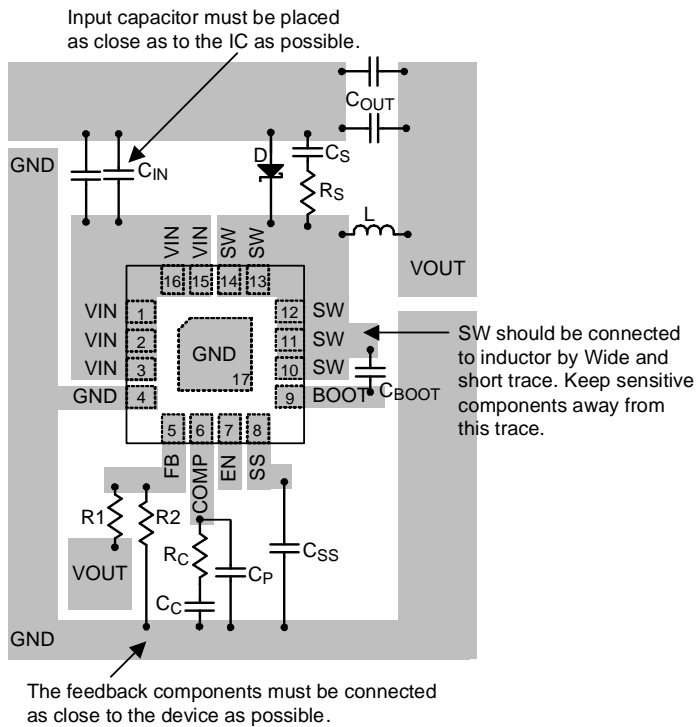
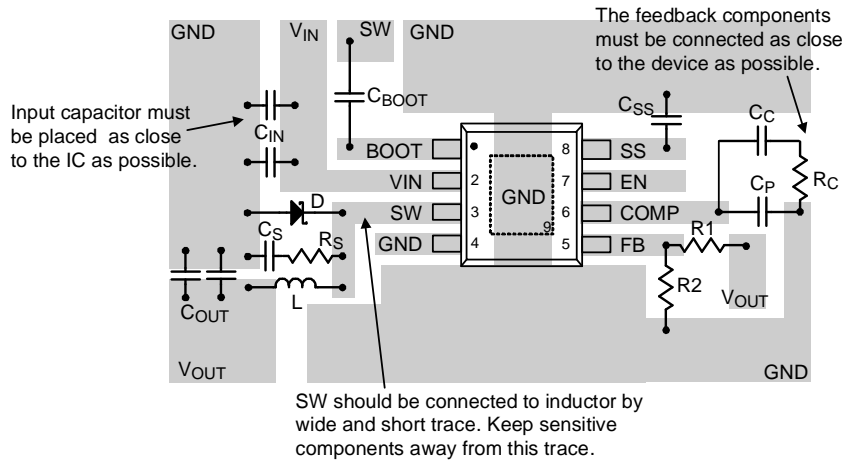

Figure 9. PCB Layout Guide for WQFN Package
Figure 10. PCB Layout Guide for PSOP-8 Package
- } Examples of PCB layout guide are shown in Figure 9 and Figure 10 for reference.